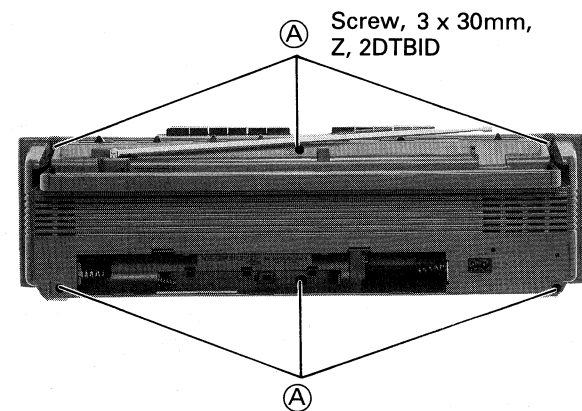

Figure 1
2. Remove six screws (A).
5. Front cabinet will be removed. (Figure 1)